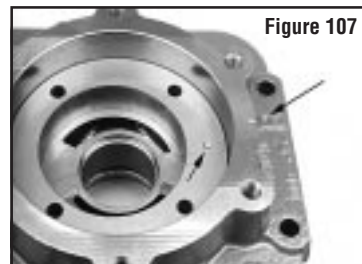

Figure 107
must be on the (A) side of the pump end cover. (see Figure 107)